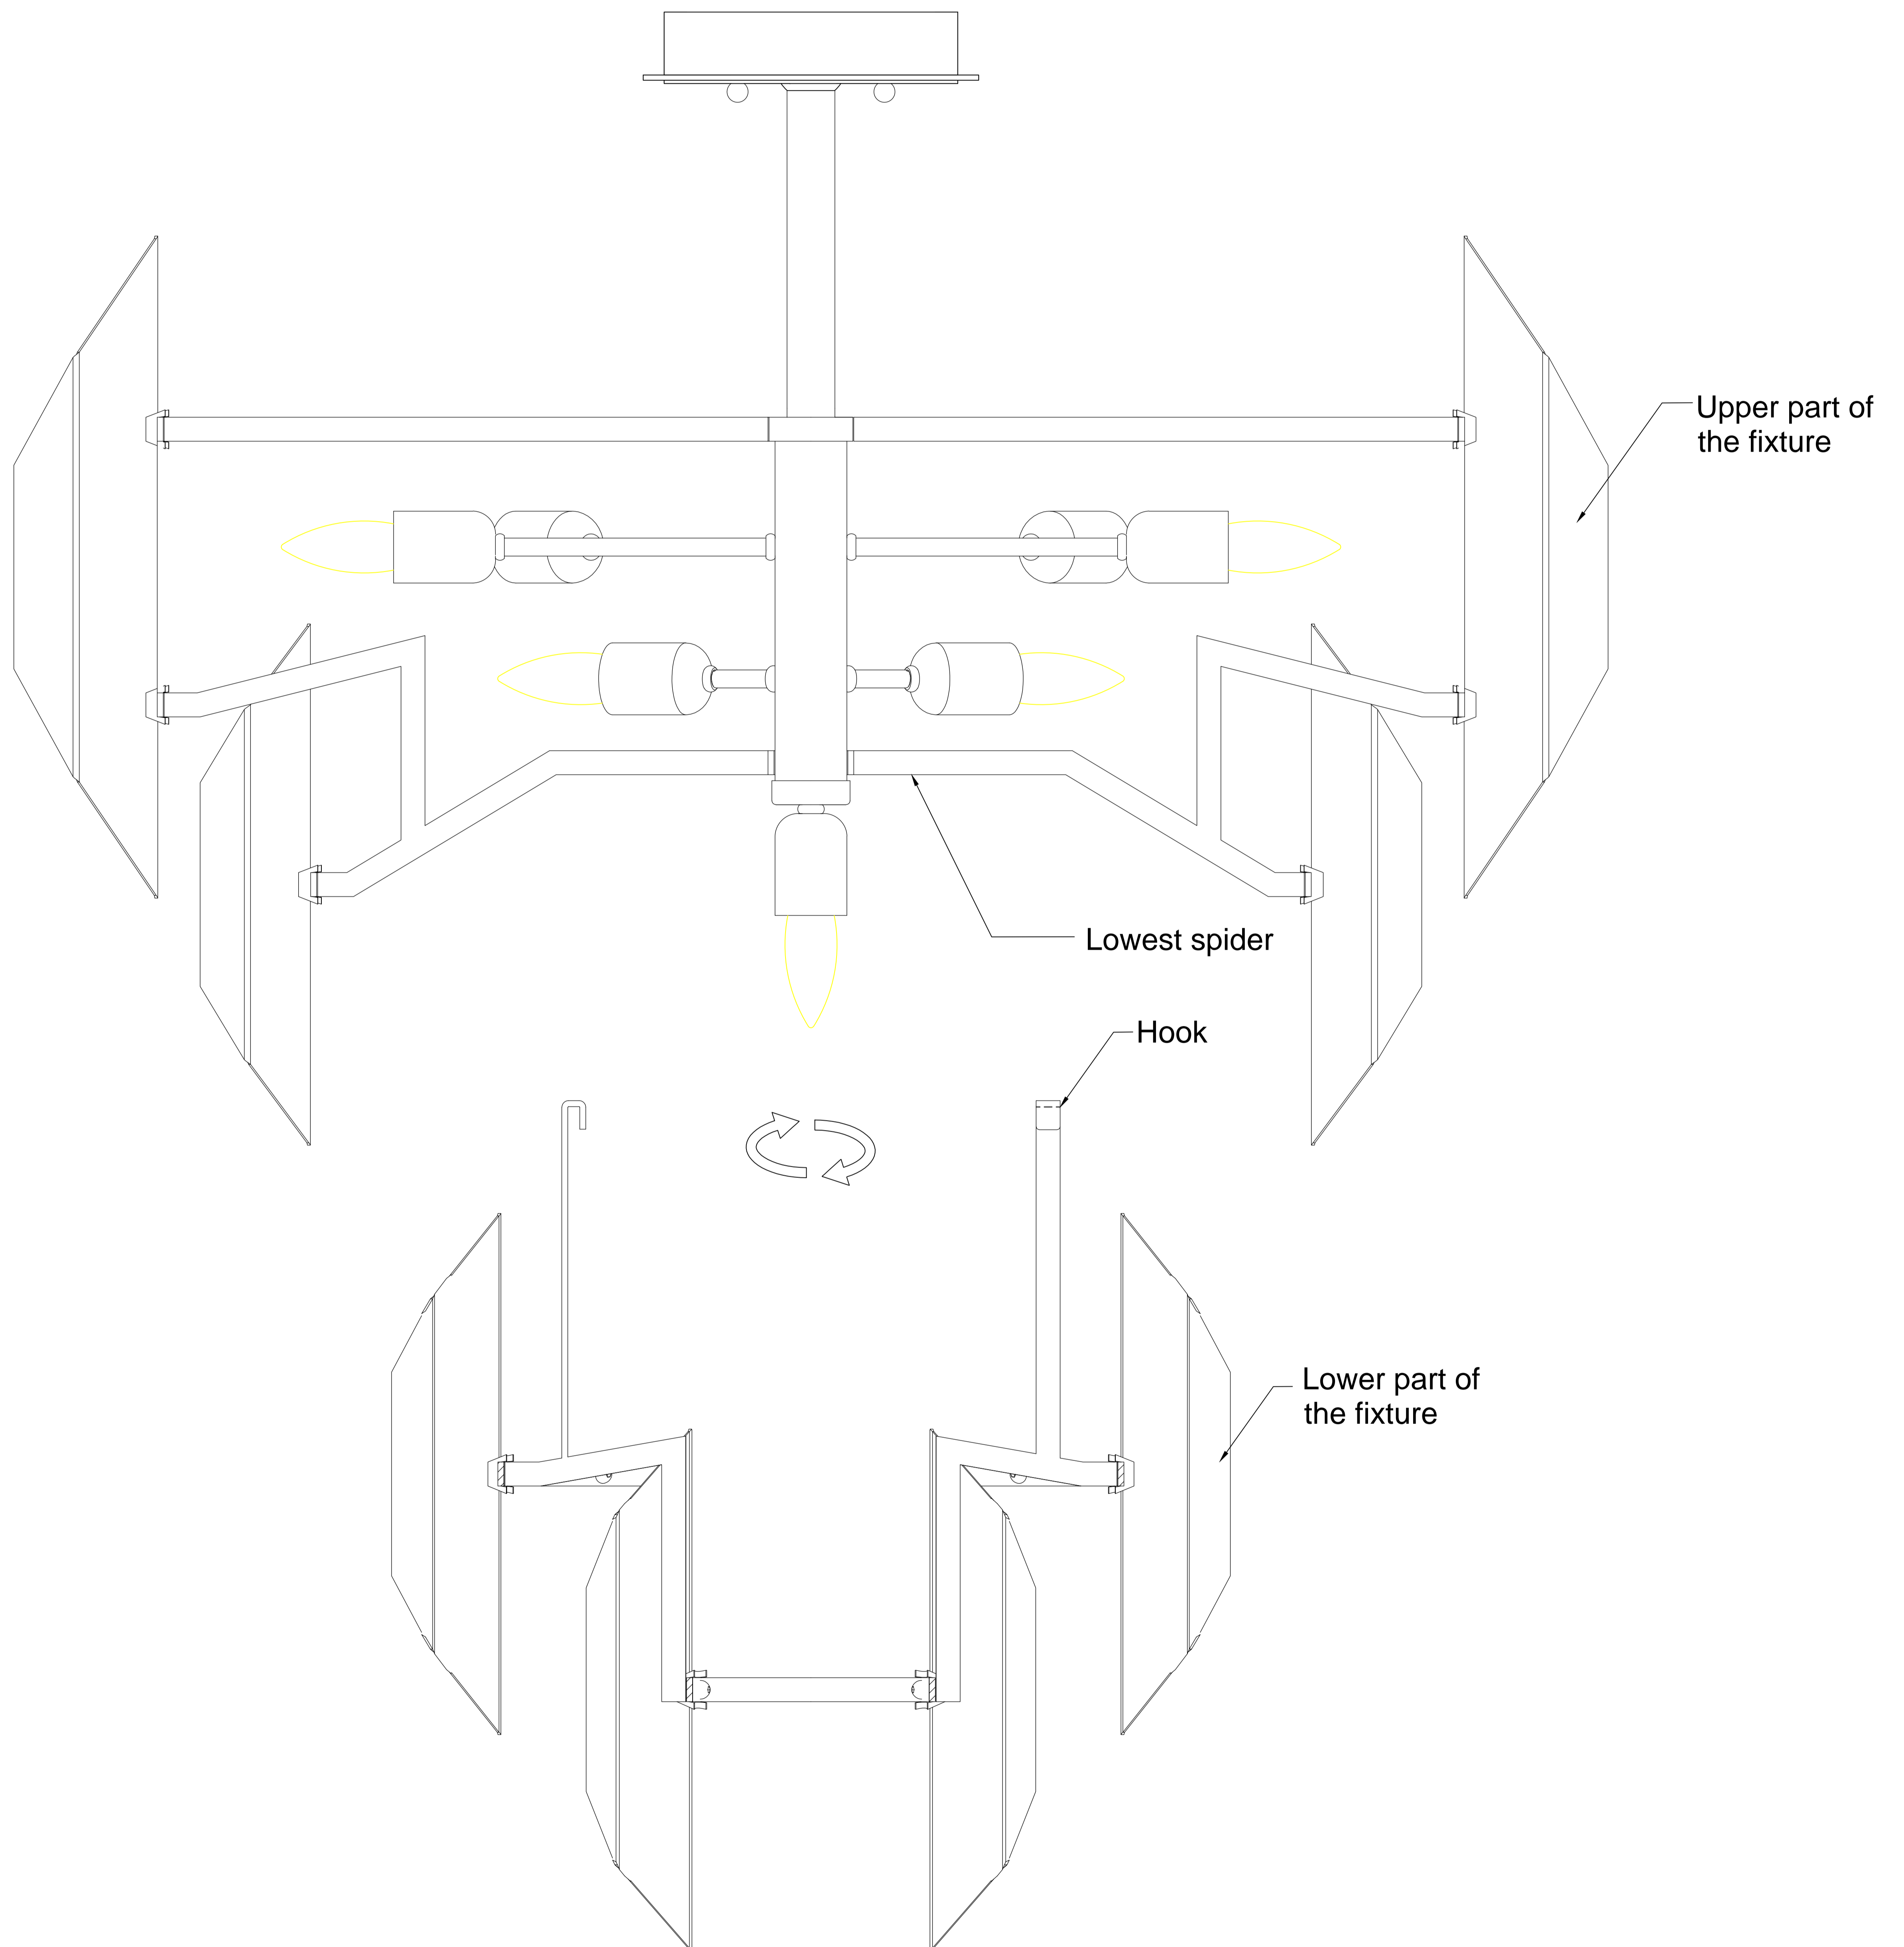

FIGURE-04
9. Attach the lower part of the fixture to the upper part. Align the hook to the lowest spider of the upper part of the fixture then twist and hang it. Make sure to hang every single hook. (See Figure-04)